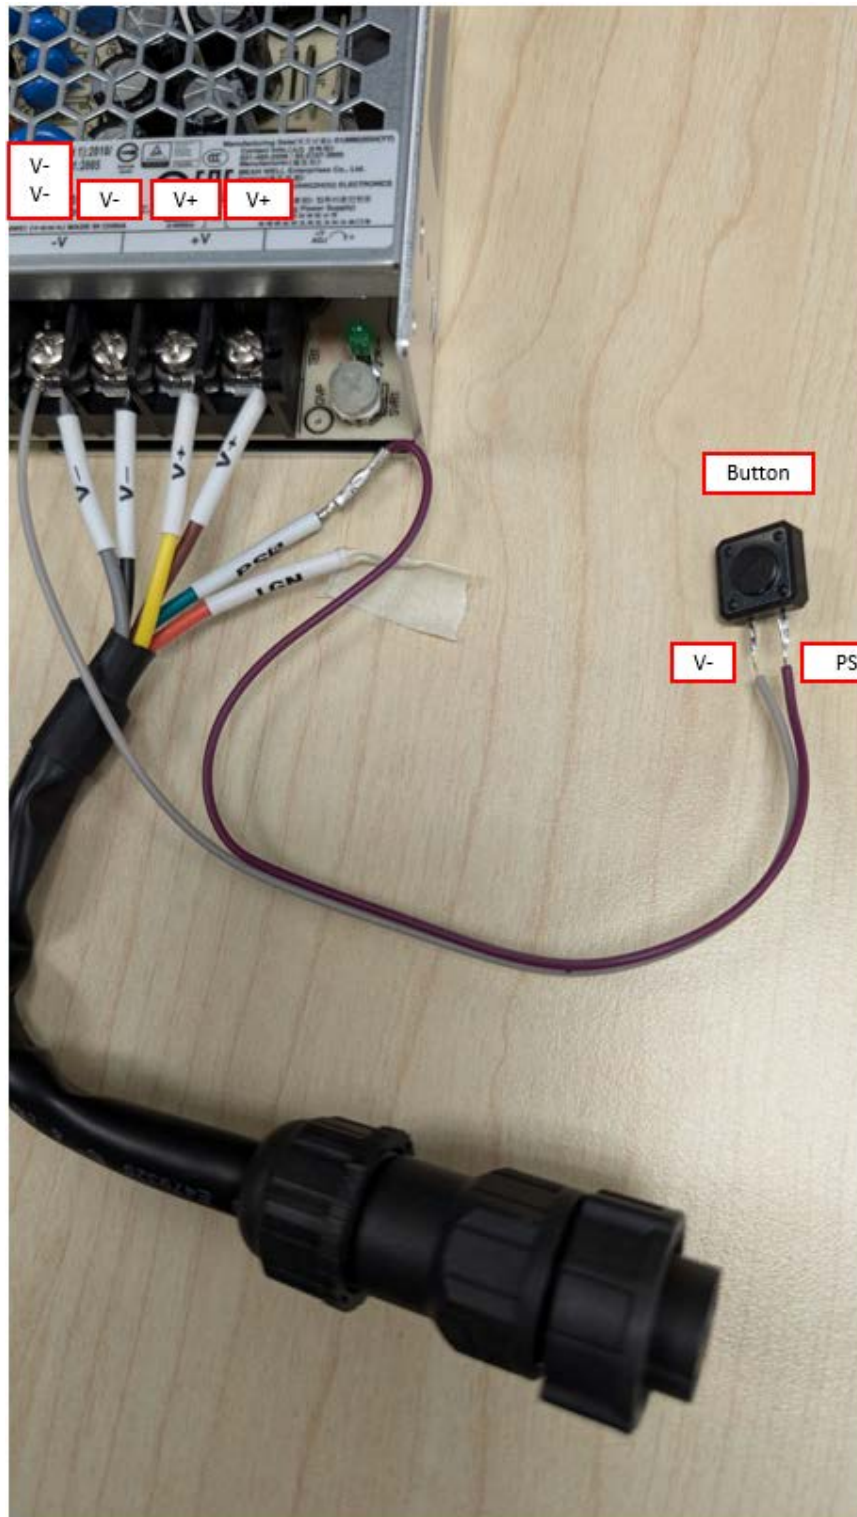

Figure 3.11 ATX Mode Connections
2. Connect the other button connection with a wire to V-, as shown in Figure 3.11.
1. Switch on board default is 00, 12 VDC in. (See Figure 3.11)